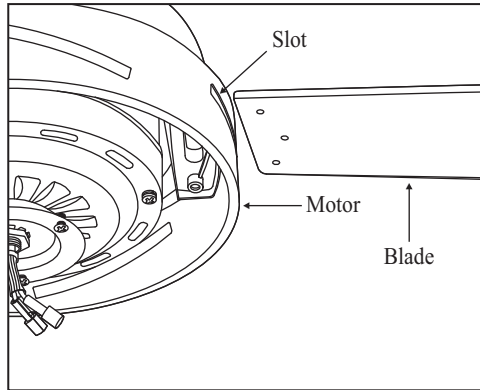

Figure 14
2. Insert the blade through the slots in the bottom band. (Fig. 14)